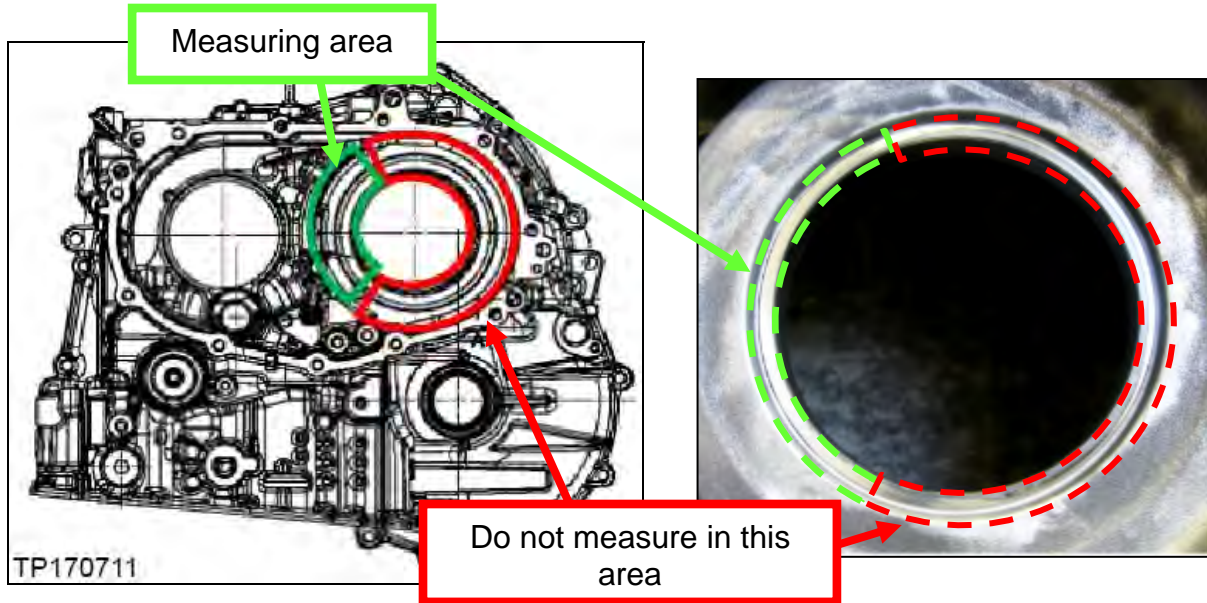

Figure 4M
- Refer to the Figures 4M and 5M and then proceed to page 61.
**IMPORTANT:** Please refer to Figure 4M for acceptable areas (highlighted in green) to measure “Y”.